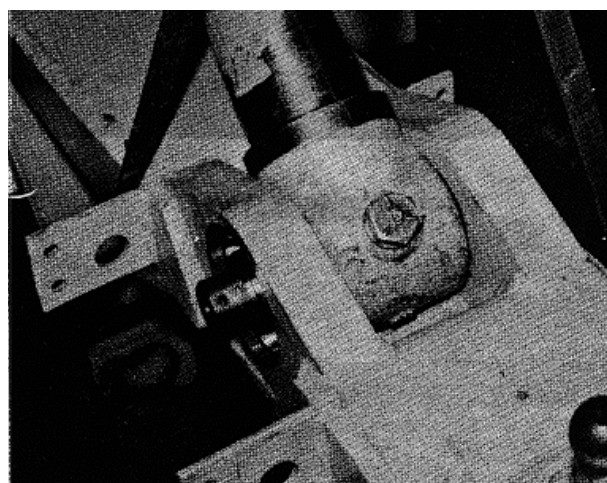

FIGURE 9-124.
f. Install bearing cups into yoke (see figure 9-124).